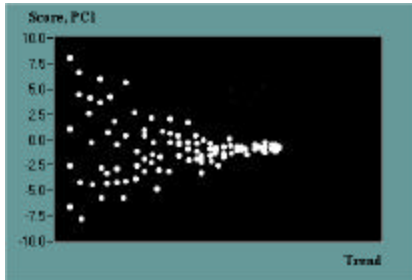

Figure 5, Trend Plot of PC – Image Divided into Four Areas.
- Another approach to presenting scores and giving more spatial information is dividing the image in smaller areas and calculating PC for each area. Plotting all PC in a trend plot gives extended information about process dynamics, and the end point can be more easily estimated. (See Figure 5.)